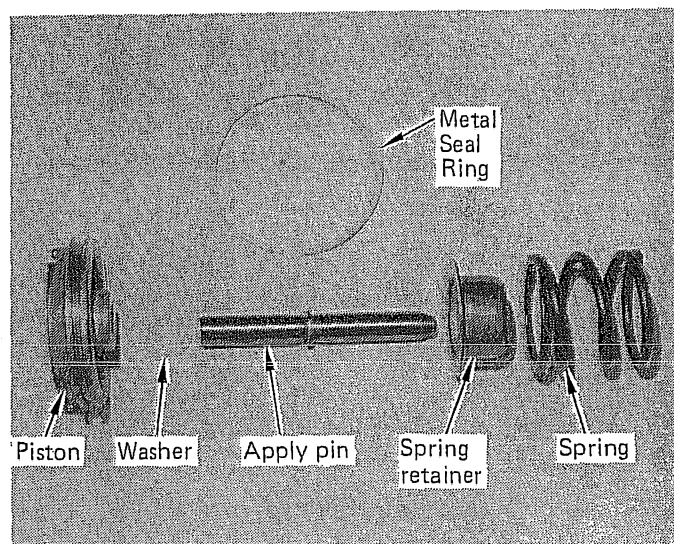
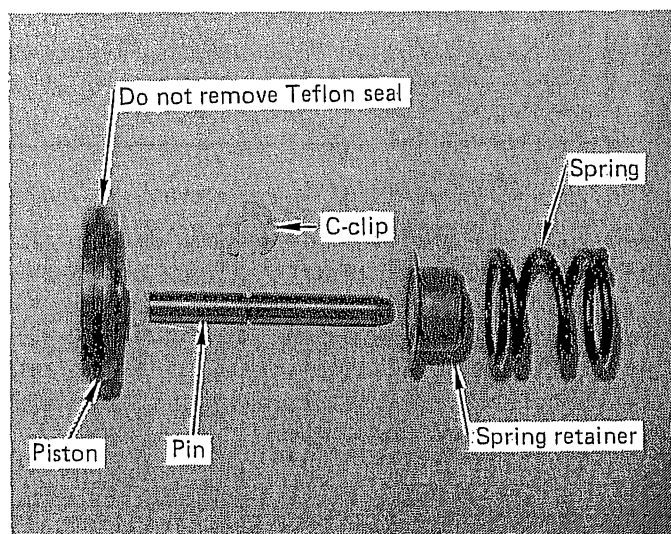

FIGURE 52
FIGURE 53
**STEP 24.** Install new metal seal ring on the intermediate servo piston if it originally had a metal ring. (See Fig. 52) Do not remove teflon seals. (See Fig. 53) Lubricate seal with automatic transmission fluid and install servo assembly into case. (See Fig. 7)